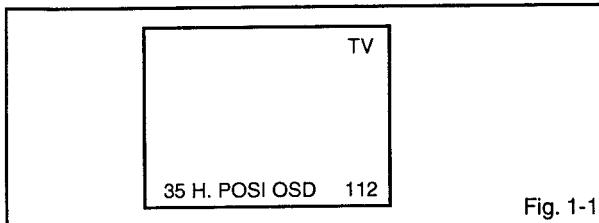

Fig. 1-1
1. In the condition of NO indication on the screen. Press the VOL. DOWN button on the set and the Channel button (9) on the remote control for more than 2 seconds to appear the adjustment mode on the screen as show in FIG. 1-1.
4. Activate the adjustment mode display of **Fig. 1-1** and press the channel button **(01)** on the remote control to select "RF AGC".
2. Activate the adjustment mode display of **Fig. 1-1** and press the channel button **(00)** on the remote control to select "CUT OFF".
4. Activate the adjustment mode display of **Fig. 1-1** and press the channel button **(04)** on the remote control to select "R CUT OFF".
3. Activate the adjustment mode display of **Fig. 1-1** and press the channel button (08) on the remote control to select "H POSI(50)".
7. Activate the adjustment mode display of **Fig. 1-1** and press the channel button (39) on the remote control to select "H POSI(60)".
3. Activate the adjustment mode display of **Fig. 1-1** and press the channel button (11) on the remote control to select "V SIZE(50)".
7. Activate the adjustment mode display of **Fig. 1-1** and press the channel button (12) on the remote control to select "V SIZE(60)".
2. Activate the adjustment mode display of **Fig. 1-1**. Press the VOL. UP/DOWN button on the remote control
4. Activate the adjustment mode display of **Fig. 1-1** and press the channel button (17) on the remote control to select "BRIGHT CENT".
1. Activate the adjustment mode display of **Fig. 1-1** and press the channel button (22) on the remote control to select "CONT CENT".